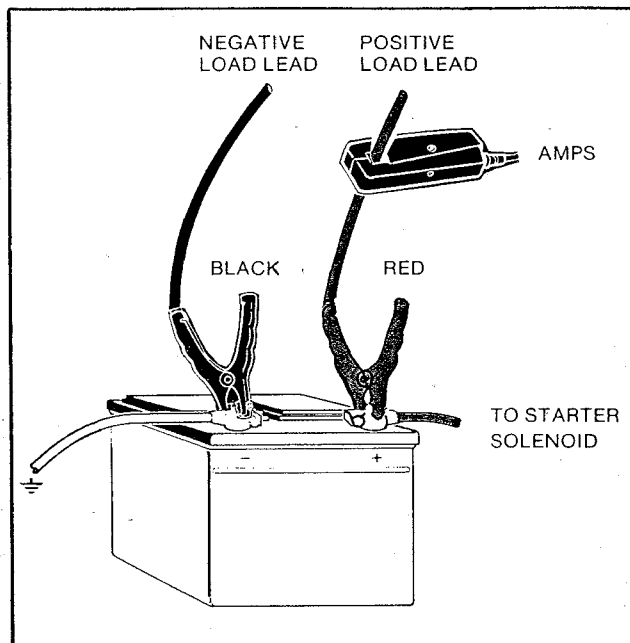

FIGURE 3. Test lead connections for testing battery performance
2. Connect BATTERY LOAD LEADS to proper battery terminals. See Figure 3.
2. Connect BATTERY LOAD LEADS to proper battery terminals. See Figure 3 page 5 for hookup.
3. Connect the Black clamp-on AMP PROBE around either **TESTER** load cable (disregard polarity). See Figure 3 for hookup illustration.